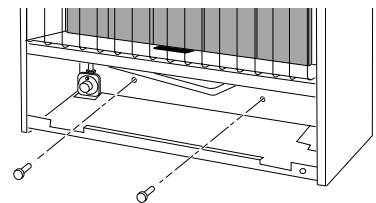

Figure 13 - Installing Bottom Mounting Screws
1. Locate two bottom mounting holes. These holes are near bottom on back panel of heater (see Figure 13).